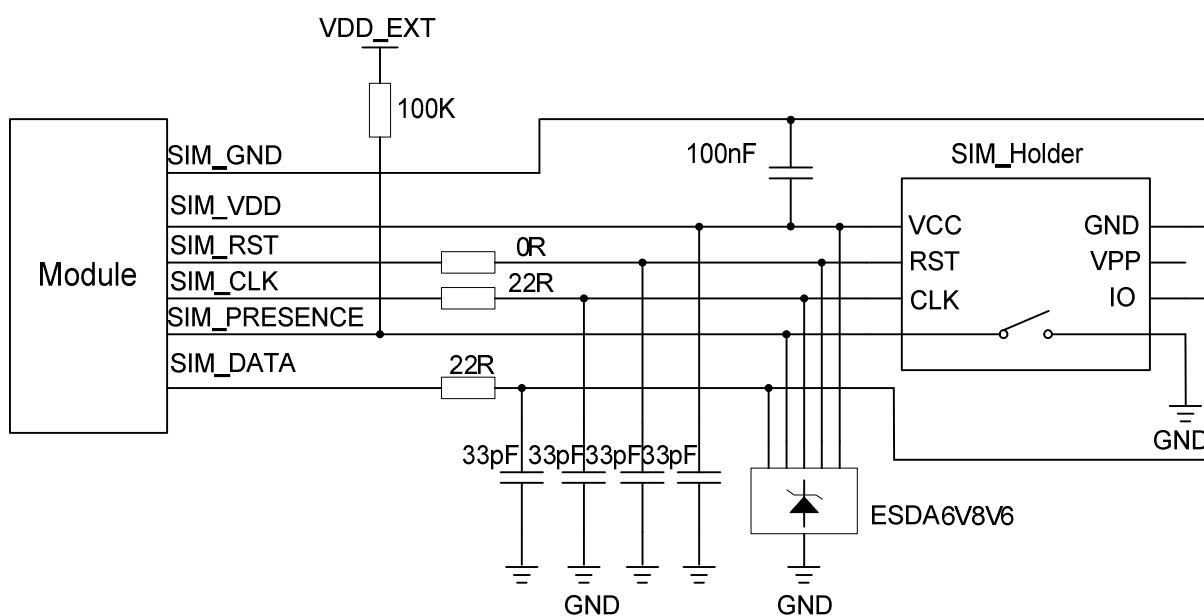

Figure 32: Reference Circuit for 8-pin SIM Card Holder
Figure 32 is the reference circuit for SIM interface, and here an 8-pin SIM card holder is used.
1. Please do not use “AT+QSIMDET=1,1” when circuit in Figure 32 is adopted, which can cause to reinitialize SIM card.